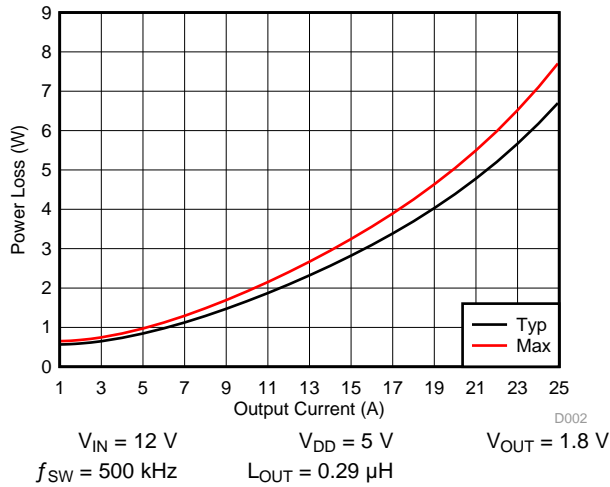

Figure 4. Power Loss vs Output Current
MOSFET centric parameters such as R_{DS(ON)} and Q_{gd} are primarily needed by engineers to estimate the loss generated by the devices. In an effort to simplify the design process for engineers, Texas Instruments has provided measured power loss performance curves. Figure 4 plots the power loss of the CSD97395Q4M as a function of load current. This curve is measured by configuring and running the CSD97395Q4M as it would be in the final application (see Figure 14). The measured power loss is the CSD97395Q4M device power loss which consists of both input conversion loss and gate drive loss. Equation 1 is used to generate the power loss curve.
The power loss curve in Figure 4 is measured at the maximum recommended junction temperature of T_J = 125°C under isothermal test conditions.
- Typical Power Loss at 15 A = 2.8 W (Figure 4)